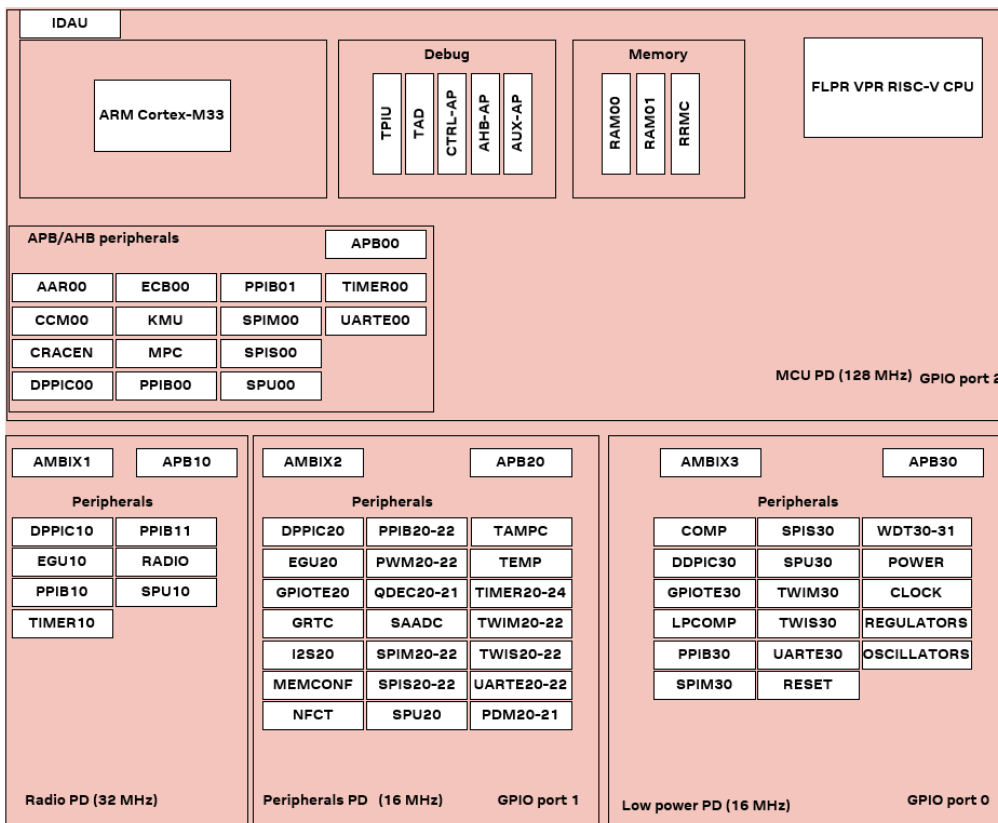

Figure 2: Power domains
NORA-B2 features multiple Power Domains (PD) for low-power operation, including fast MCU and lower speed domains. Figure 2 shows the power domains, the integrated ARM Cortex processor, peripherals, and other functional units supported in NORA-B2, which feature:
Three of the power domains have their own GPIO ports. The GPIO pins can be used by peripherals in the same power domain. Selected port 2 pins, **P2.00-P2.10**, can be used for some serial interfaces in the peripheral domain SPIM, SPIS, and UARTE, as described in Table 8. For information about each instance's power domain and the related GPIOs, see Figure 2 and Table 6. Refer to nRF54Lxx datasheet [4] for more information, and the interconnections between different power domains.
The 4-wire UART interface supports hardware flow control with baud rates up to 4 Mbps. Up to five instances can be defined. For information about each instance power domain and the related GPIOs, see Figure 2 and Table 6.